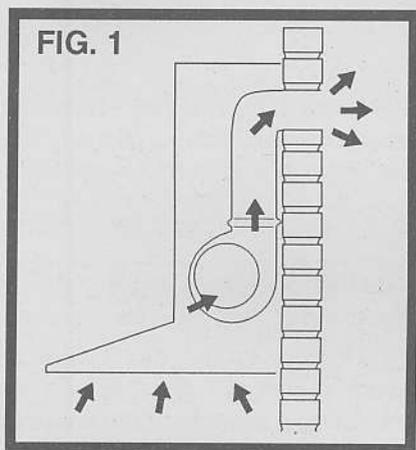

FIG. 1
• 1. Extraction Via Ducting (fig. 1)
The very best method of cleaning the kitchen of unwanted odours is by connecting the appliance to an exhaust duct and venting to the outside atmosphere via an exterior wall. (Suitable ducting kits may be purchased from the store where you bought your extractor). Ducting your extractor negates the need for a charcoal filter. (Fig. 1).